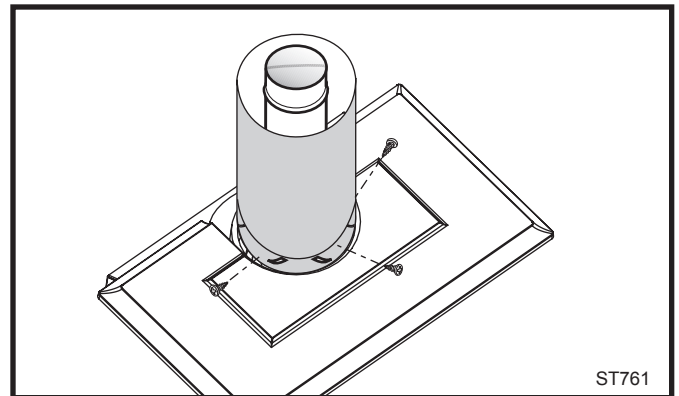

Fig. 19 Fasten outer pipe with #12 x 1/2" sheet metal screw.
5. **Install the Outer Adapter Pipe.** Apply a 1/4" bead of cement around the inside wall of the pipe, about 1" from the end. Insert the pipe over the stove flue collar, keeping the vertical seam oriented to the back of the stove. Also, be sure to align holes on the pipe with the holes on the flue collar of the firebox. Fasten the pipe to the holes in the flue collar with the #12 x 1/2" sheet metal screws provided. (Fig. 19)